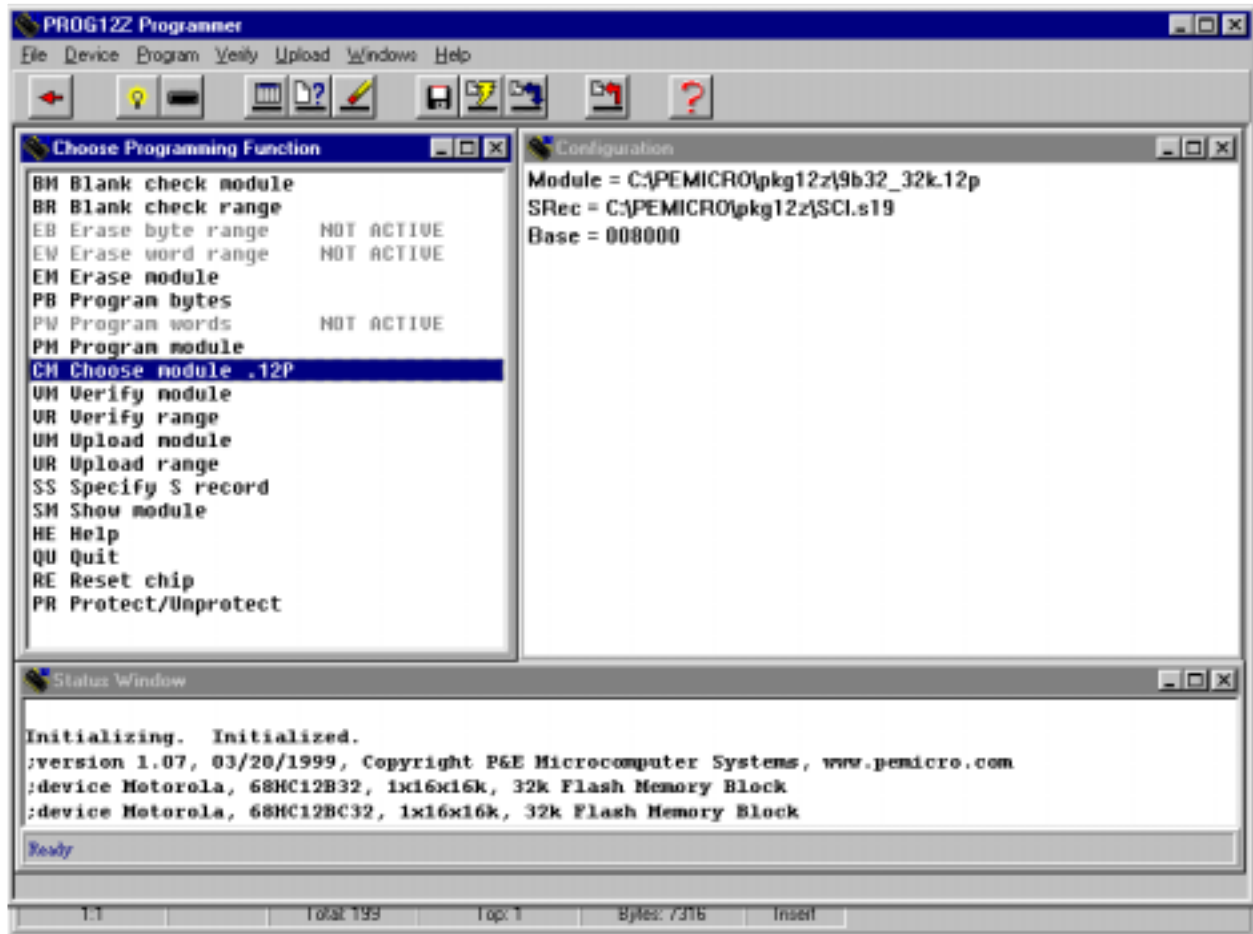

Figure 7. P&E's Programmer Window
8. Launch the programmer. If the correction assistant window opens, select the correct parallel port being used. Defaults should work for the other options in this window. See Figure 7.